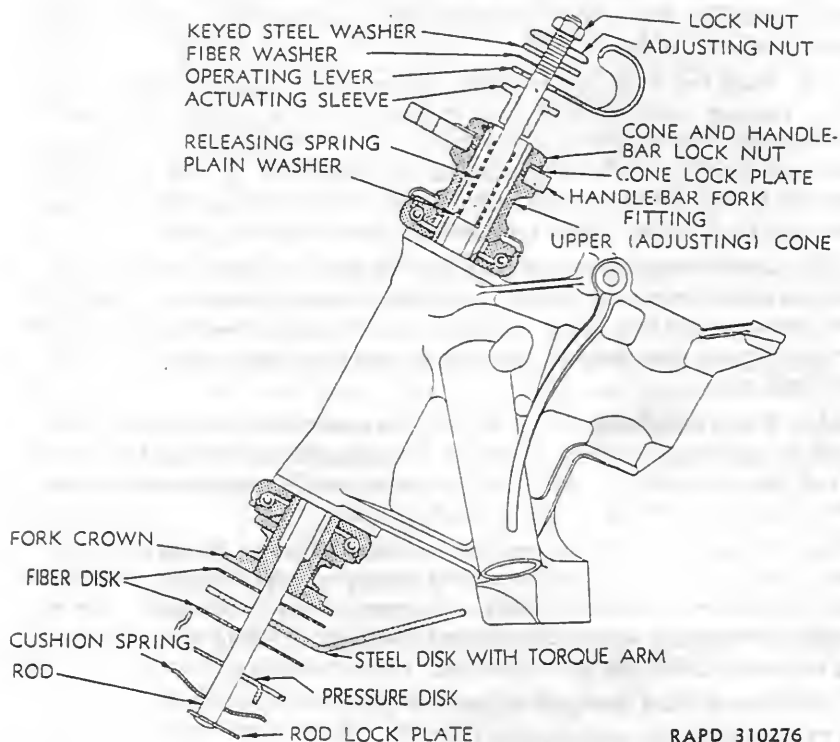

Figure 65—Steering Damper Assembly
99. STEERING DAMPER (fig. 65).
a. Remove (fig. 65).
- (1) Remove front wheel (par. 125).
- (2) Remove front mudguard (par. 104).
- (3) Remove lock nut from steering damper rod, then remove upper end parts in the following order: adjusting nut, keyed steel washer, fiber washer, operating lever, and actuating sleeve. This entire assembly is located in the central part of the handle bar mounting bracket.
(4) Steering damper rod, cushion spring, pressure disk, fiber disk, and steel disk assembly can now be withdrawn (downward) from fork stem hole.
b. Install (fig. 65). Before installing steering damper, make sure that the parts are in correct order on the lower end of the rod before passing rod up through hole in fork stem. Check parts and order of assembly.
(1) Assemble parts on rod end (fig. 65), making sure that the bent down lip of the steel pressure disk engages with notch in end of the rod lock plate.
(2) Pass rod with its lower end assembly up through hole in fork stem, turning steel pressure disk to front position so that "bent-up" lip engages with notch in front side of rigid fork crown, at the same time engaging curved end of steel disk torque arm in slot in underside of frame head. Maintain pressure against end of rod to keep lower disks in order while assembling upper rod end parts.
(3) Install upper rod end assembly in the following order: Small plain washer, releasing spring, adjusting sleeve screws into end of fork stem, operating lever registers on the adjusting sleeve, fiber washer, keyed steel washer registers in rod slot, large adjusting nut, and lock nut.
(4) Turn actuating sleeve all the way into fork stem and then back it out (up) $\frac{1}{2}$ turn or more. Register the operating lever on flat of actuating sleeve, and see that lever has full movement to the left without bottoming sleeve in the fork stem.
(5) Adjust steering damper by setting adjusting (large) nut so that operating lever must be moved nearly straight back from the free (left-side) position, before damper takes noticeable effect (applies friction to movement of the handle bars). Hold large adjusting nut and tighten the small lock nut.
(6) Install front mudguard (par. 104).
(7) Install front wheel (par. 125).
(1) Attach windshield apron spring guard to handle bar bracket. Do not tighten bolt nut until after handle bars are installed.
(2) Start handle bar bracket holes over ends of fork, seeing that spark control wire housing is on right side of frame head; then drive handle bars onto fork ends, using a rawhide mallet, or a hammer and wood block.
(3) To install cone lock plate, enter registering pin through hole in handle bars and engage notch in the adjusting cone. Install and tighten handle bar lock nut securely. *CAUTION: When tightening this nut, always make sure that register (shoulder) of nut enters hole in lock plate and handle bars.*
(4) Check adjustment of head bearing. The fork must turn freely but without perceptible shake. Readjust head cone to obtain proper bearing adjustment if necessary.
(5) Tighten handle bar bracket-fork end pinch bolts.
(6) Position windshield apron guard so that it clears fork springs. Securely tighten mounting bolt nut.
(7) Install steering damper upper end fittings (fig. 65). Make sure that lower end disks and plates are properly engaged. Adjust (par. 99).